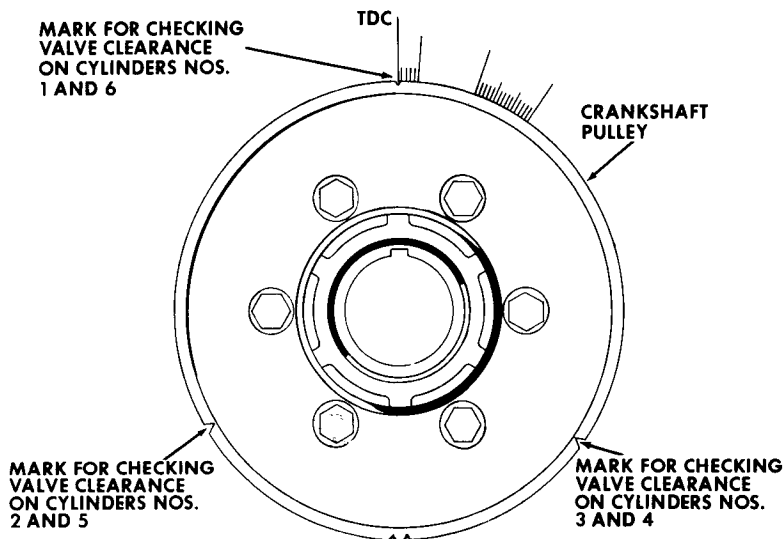

Figure 70
A. Crank the engine slowly, until the crankshaft pulley is in the position shown in Figure 70. (Mark for checking No. 1 cylinder must be aligned with pointer).